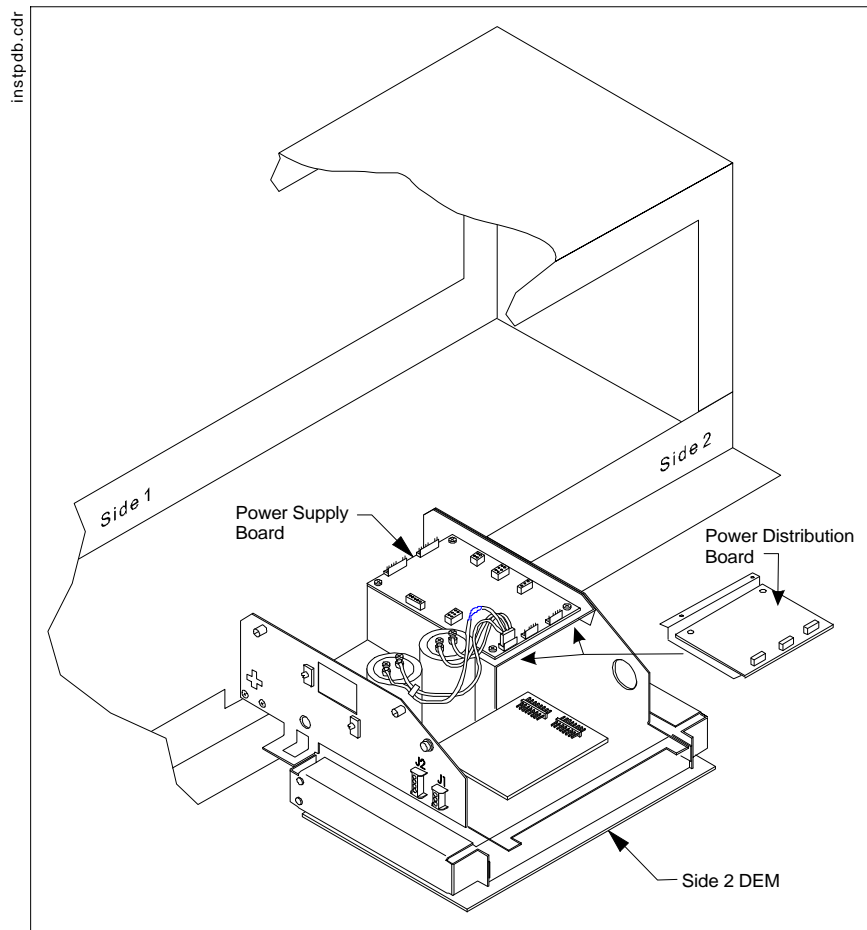

Figure 2-8 Installing the Power Distribution Board (PDB)
3. Install the PDB (PN 886038-001) and secure with hardware provided. See Figure 2-8.